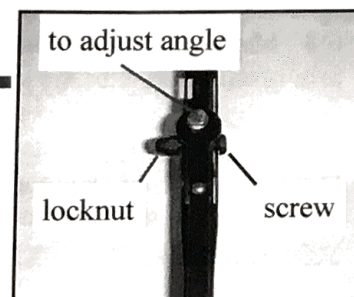

FIG. 6.1
- 6.1 Remove the screw and locknut from the wiper arm. Reference figure 6.1
- 6.2 Insert the screw through the upper mounting hole in the wiper blade, then the wiper arm, then fasten with the locknut. reference figure 6.1